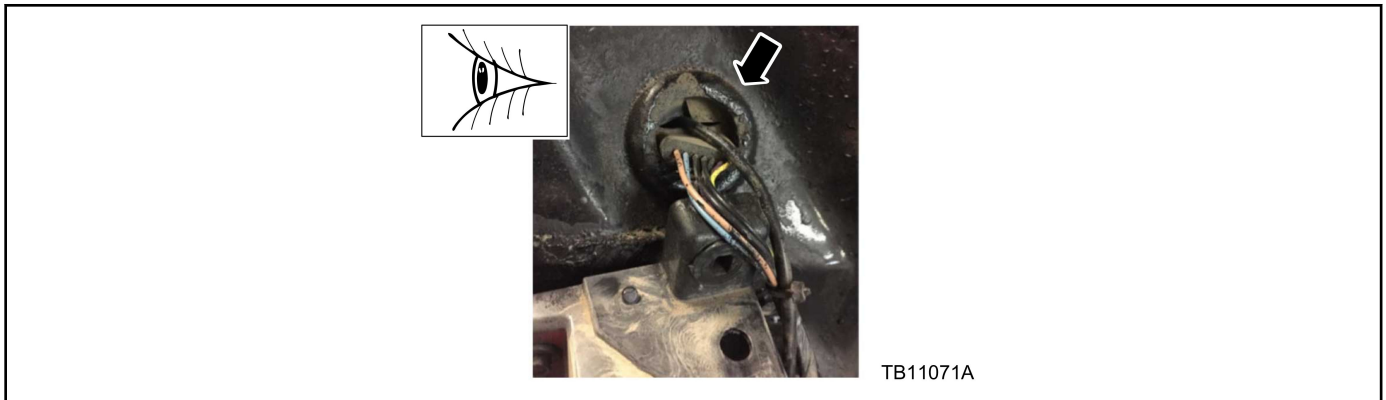

Figure 3 - Article 17-0044
- e. Behind left and right rear lamp assemblies. (Figure 3)